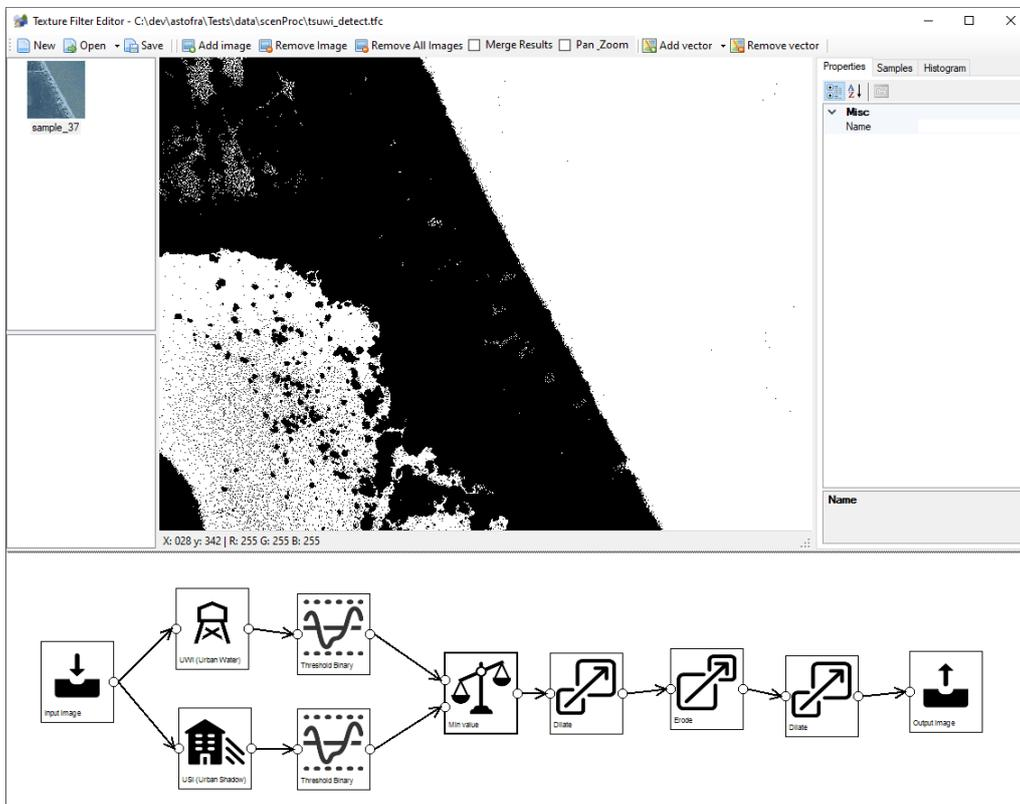

Figure 6.44: Applying minimum value to select areas with water and no shadows
6. Minimum value of the UWI and USI values, this only selected the areas where there is water and no shadows, see Figure 6.44.